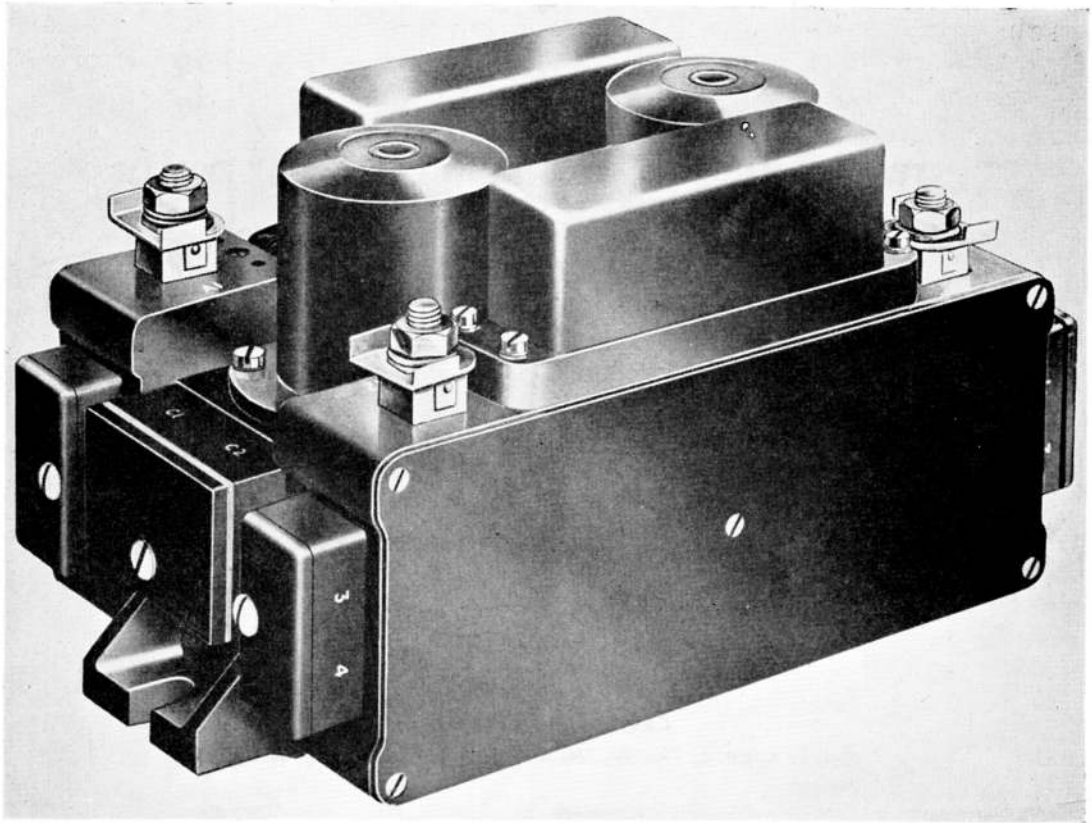

Fig. 1. General view of switch
2. The Type 7A, No. 6 switch (*fig. 1*) is identical to that described in A.P.4343, Vol. 1, Sect. 11, Chap. 13, except that it is fitted with fool-proof terminals.